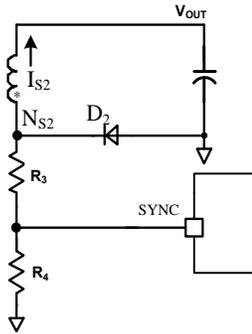

Figure5. SYNC Application Circuit
In figure5, SY22106 regulates the DC output voltage using the integrated reference and the operational amplifier (OP). The inverting input of the operational amplifier is connected to the VFB pin, the non-inverting input is connected to the internal reference voltage with a nominal value of 1.2V, and the operational amplifier output is connected to the VCOMP pin.